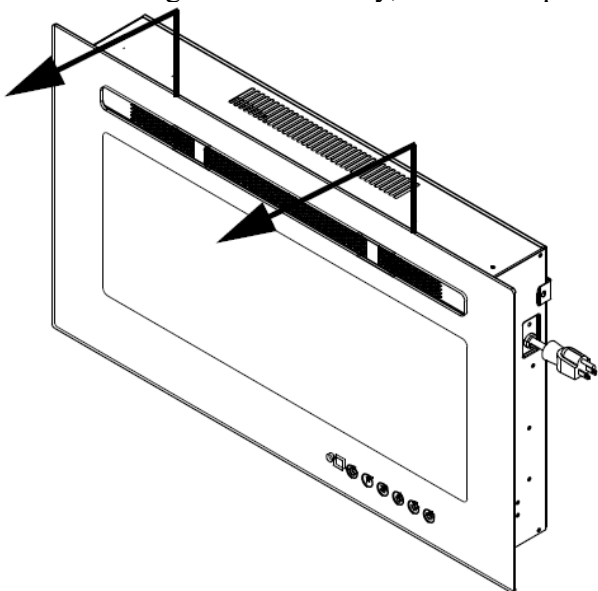

Fig.3
D. Take glass off carefully, then take 2pcs foam out of fireplace. Refer to Fig 3 and Fig 4